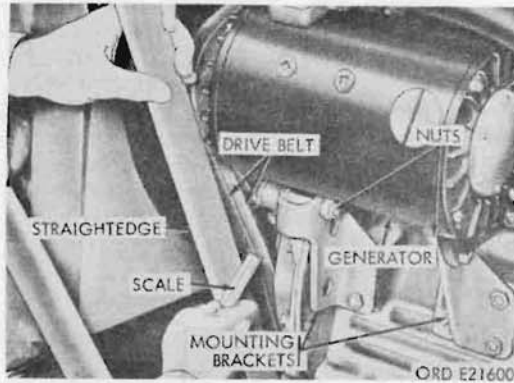

Figure 138. Generator, fan and water pump drive belt adjustment
a. Drive Belts (Fig. 138).
- (1) Adjustment. Loosen the two safety nuts securing the generator to the mounting bracket. Loosen the screw holding the generator to the adjusting arm and move the generator toward or away from the engine, as necessary, to obtain the correct belt tension. A light thumb pressure on the belts at